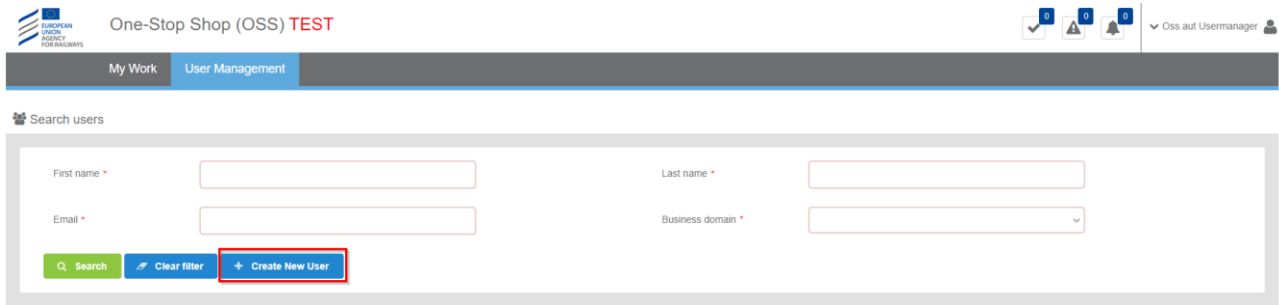
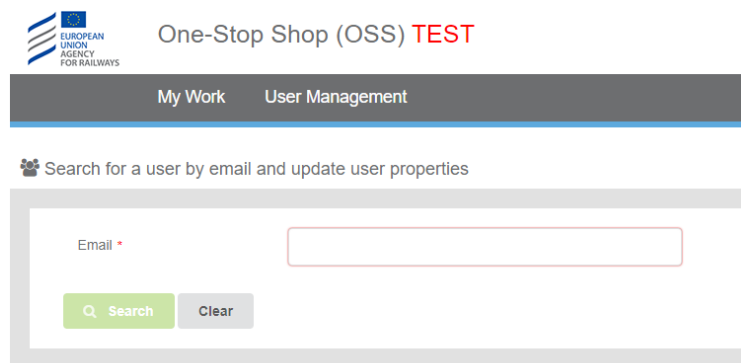

Figure 1: User Manager screen
Figure 2: Create New User - search by email
Upon the user’s successful registration the User Manager (UM) creates a new user in OSS by clicking on the respective button as depicted in Figure 1. Then the UM searches the already existing user in SRM Online by its email, as depicted in Figure 2.